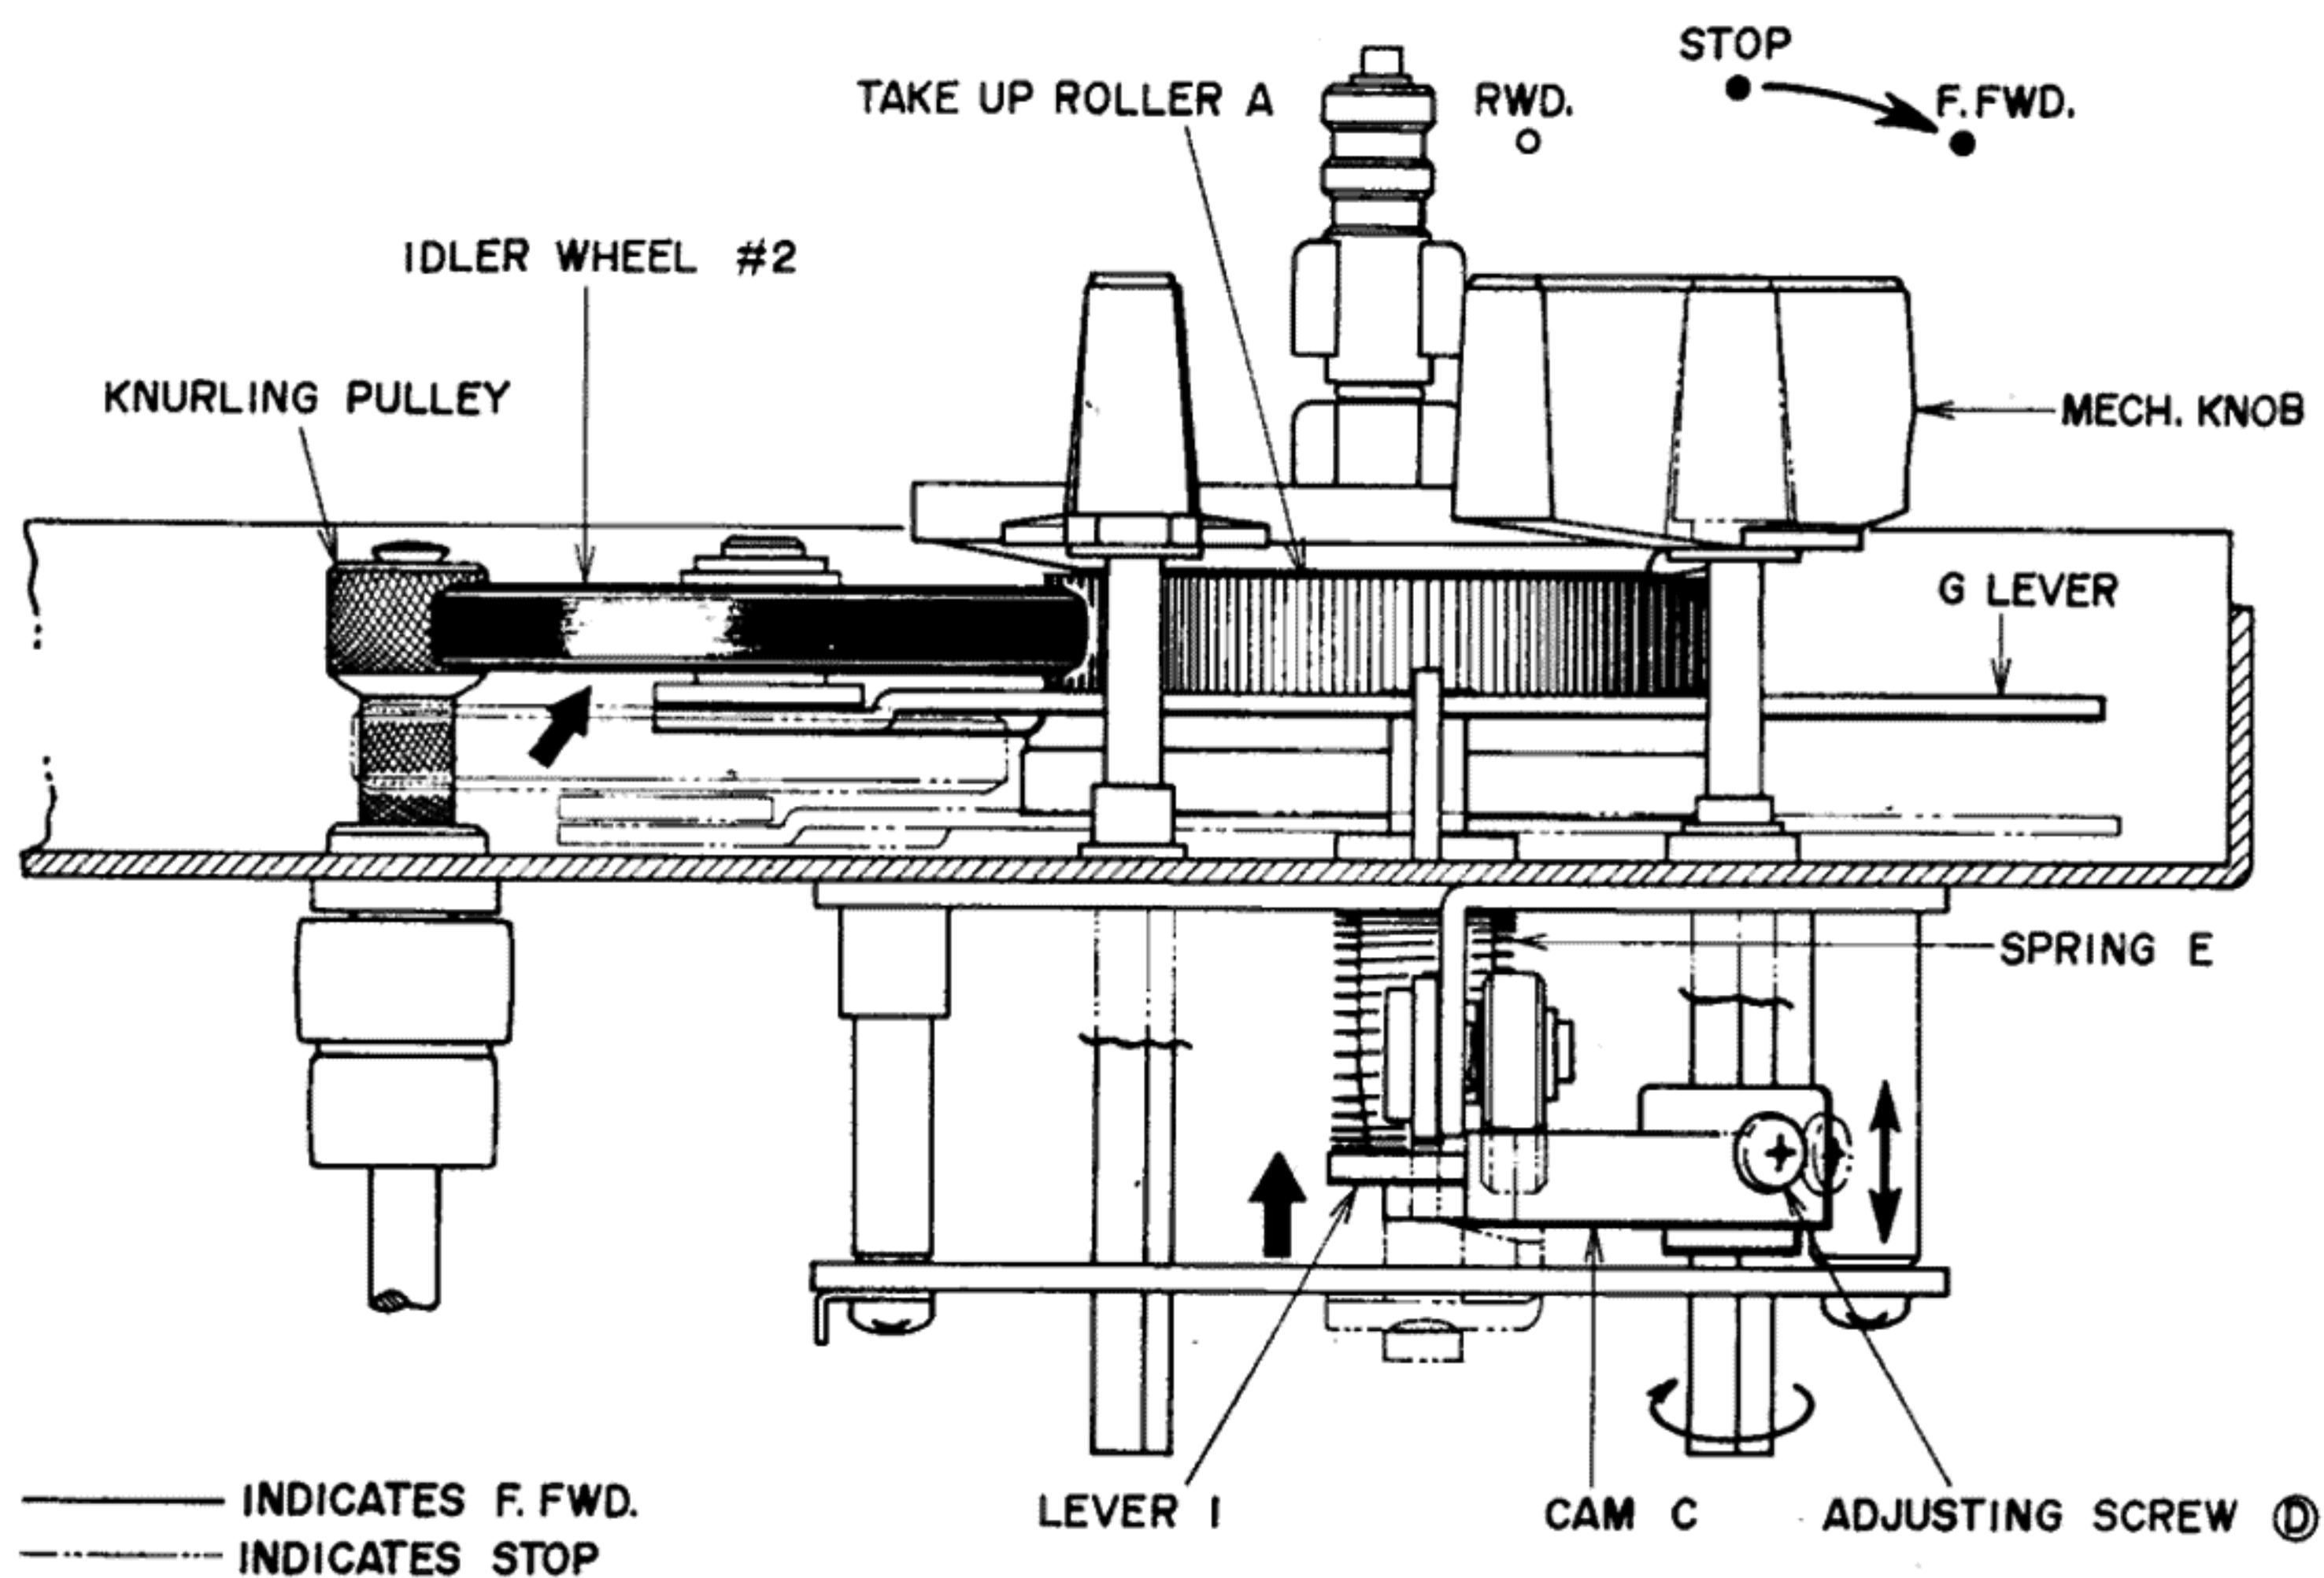

Fig. 14
6. ADJUSTMENT OF IDLER #2 POSITION AT FAST FORWARD MODE (See Fig. 14)
Move Cam ③ shown in Fig. 14 up and down as indicated by the arrow mark (↔) in the figure and adjust Lever ⑥ height so that Idler #2 contact between Take Up Roller A and the knurling Pulley is uniform when the F.FWD/RWD Lever is set to F.FWD position. Fix at adjusted position with Adjustment Screw ④. During operation, confirm that the rotating position of Idler #2 is ideal.